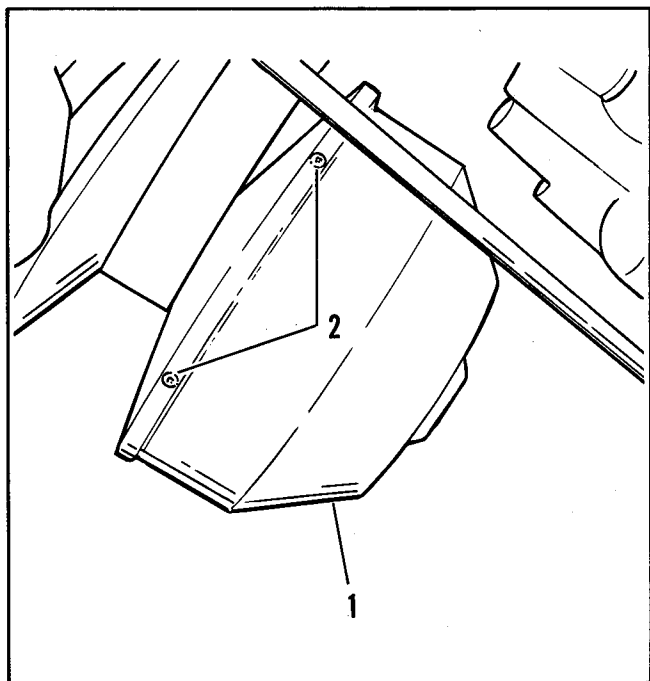

Figure 76 – Primary Drive Cover
- e. See Figure 76. Remove primary drive cover screws (2), pull cover (1) off.
- c. Install washer (7), lockwasher (8) and bolt (9) into stem. Install primary onto crankshaft taper and thread bolt (9) by hand. Hold primary as described in NOTE under Step f of Disassembly and tighten bolt (9) to 38-48 ft.-lbs. torque.
- d. See Figure 76. Install cover (1), screws (2) and plug (3).